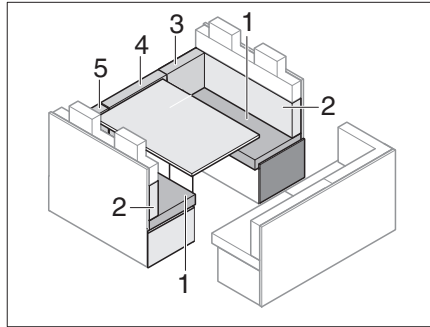

Fig. 199 Prior to conversion
- Remove the back cushions (Fig. 199,3,4 and 5) and lay them aside.